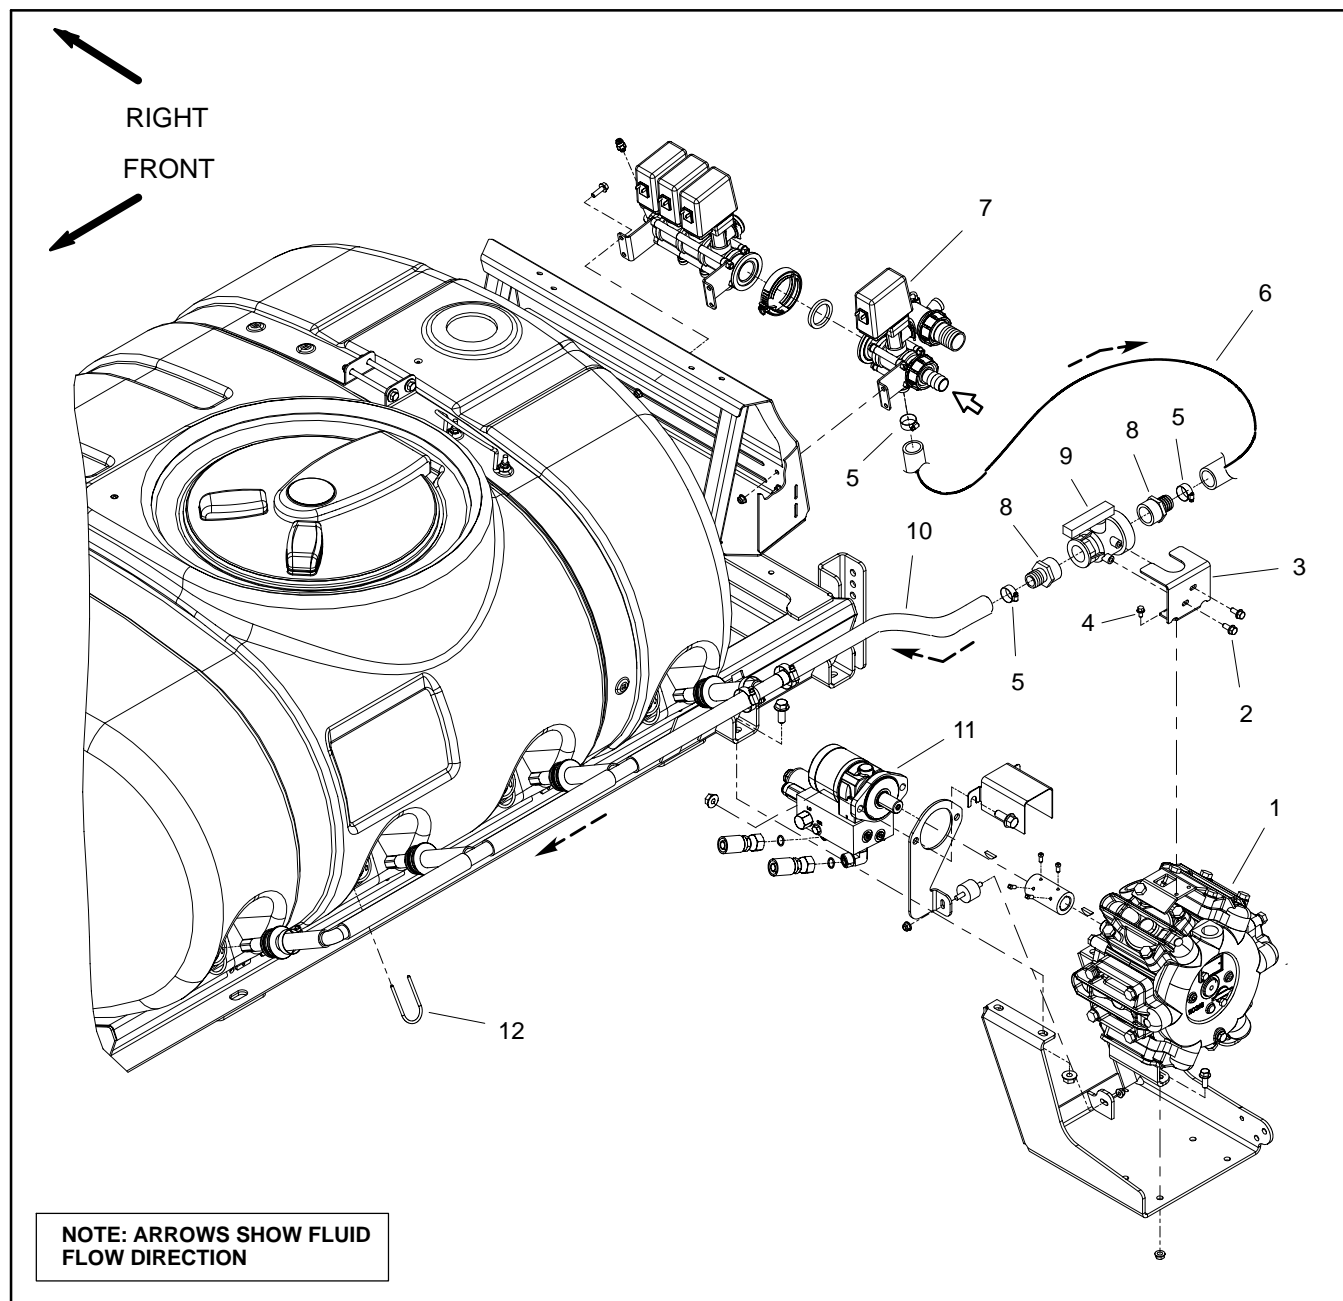

Figure 8
Disassembly (Fig. 8)
4. Remove agitation supply components as required using Figures 8, 9 and 10 as guides. Discard all removed O-rings and gaskets.
Assembly (Fig. 8)
1. Install all removed agitation supply components using Figures 8, 9 and 10 as guides. Replace all removed O-rings and gaskets.